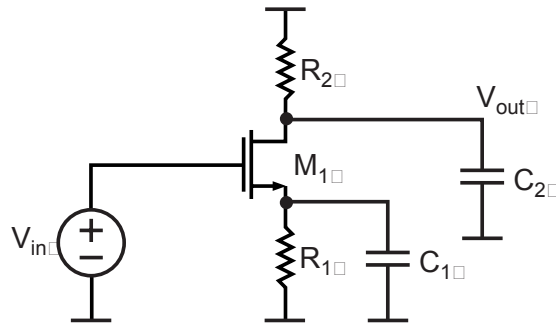

Figure 1: Zero-peaked amplifier.
1. The following is based on Problem 8 in Chapter 8 of T.H. Lee's first edition book. Consider the zero-peaked amplifier shown in Figure 1.